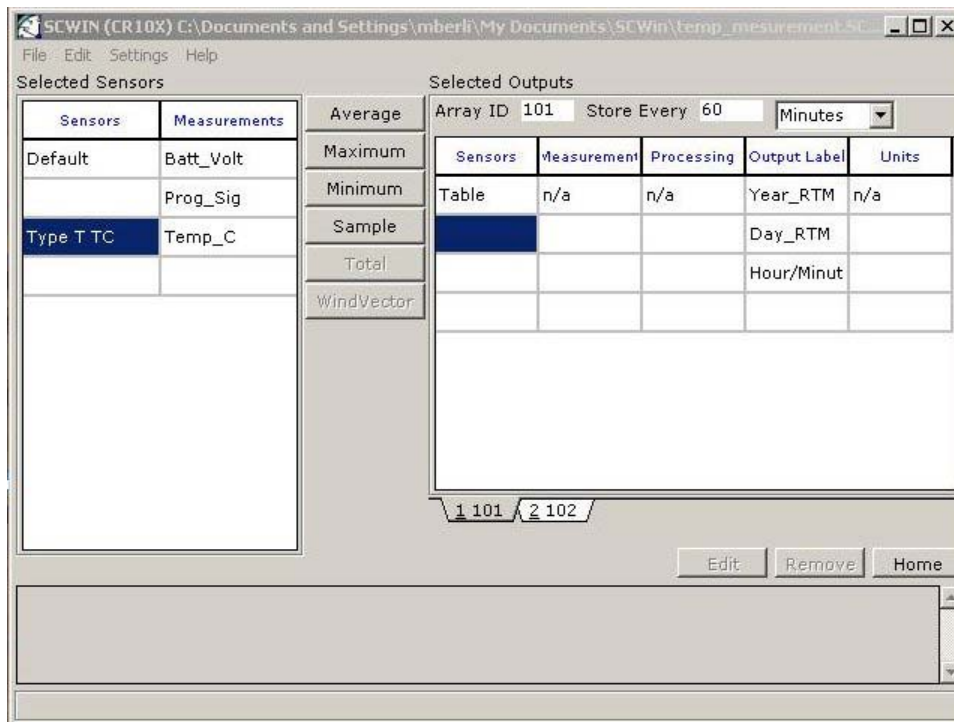
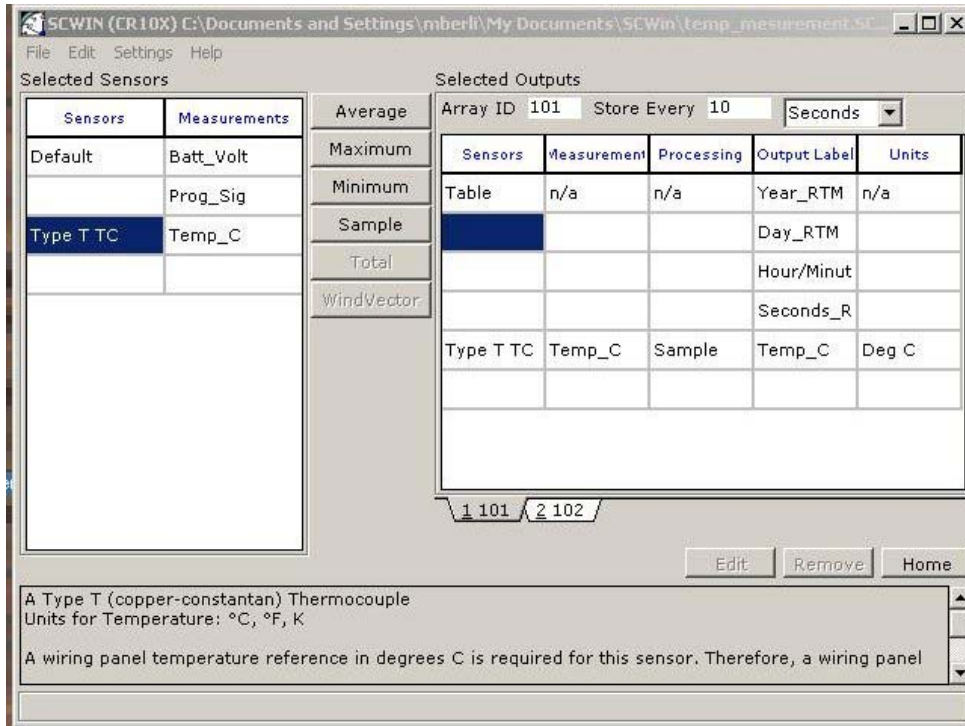

Fig. 6 Definition of the output with selected sensor.
Fig. 7 Definition of the output with selected sensor and output.
5. Press the “Output” button on in the main menu and a window like Fig. 6 will appear. This window allows you to choose the output preferences in your data file once data collection begins. First, under “Selected Sensors”, choose those sensors you wish to include in the output data file. Click on your thermocouple sensor (should be highlighted in blue) and place it into the “Selected Outputs” window by choosing Average, Minimum or Maximum (or you may choose all three, in desired). Now, your window should read as Fig. 7. Under then “Selected Outputs” window, choose the “Data Storage” interval in minutes or seconds. A sampling interval of 1 minute is sufficient for short tests, unless you will be exposing the temperature sensor to a rapid temperature change. This is an important step which determines the total number of sampling points saved to your output file. Click the Home button to return to the Main Menu.